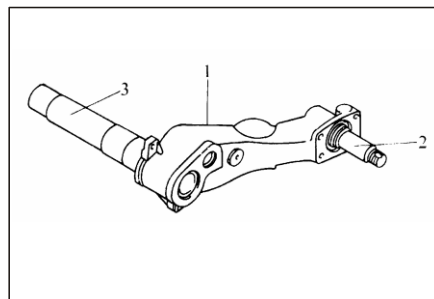

Figure 4-26 Rear Rocker arm Assembly
(10) Remove the locating tool.
(11) As indicated in Figure 4-26, remove the rear rocker arm assembly.
The rear rocker arm assembly as shown in Figure 4-26 is composed of rear rocker arm 1, axle 2 and axle tube 3. The rear rocker arm is a basic component, and its axle tube and axle are separately pressed into rocker arm holes.